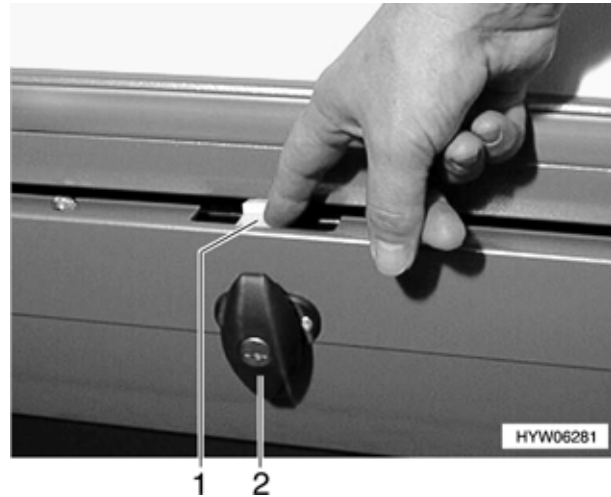

Fig. 35 Retainer on the underfloor sliding drawer
- Open the flap lock (Fig. 35,2) as described above.
- Push the retainer (Fig. 35,1) down, keep it pressed and pull out the underfloor sliding drawer.